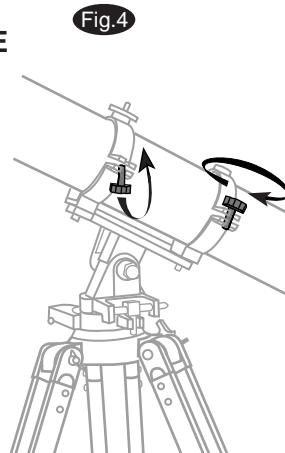

Fig.4
**ATTACHING THE TELESCOPE MAIN TUBE TO TUBE RINGS (Fig.4)**